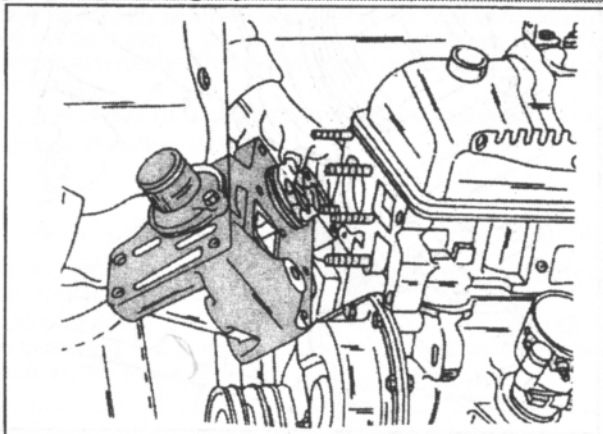

Fig. 1.85. — The water pump must be removed or installed at the angle shown.
- Remove the water pump securing bolts and lift off the pump at an inclined position as shown in Fig. 1.85. Not all nuts have the same size and must be tightened to the torque values given below. Remove the sealing rings from the sealing face. They must be replaced.
- Fit new rubber seals to the pump sealing face and lift the pump against the cylinder head face. Observe the angle shown in Fig. 1.85, otherwise it may be difficult to fit the pump over the studs in the cylinder head. Tighten the nuts and bolts to the following torques, depending on the thread size: